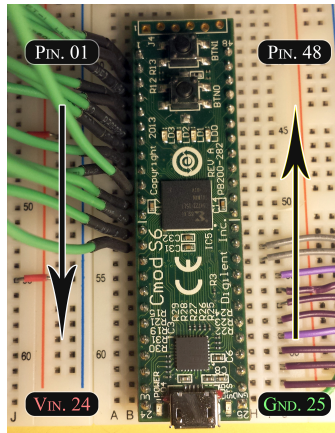

Figure 4: CMod-S6 Board Orientation and Numbering
- 2.2. In order to be able to connect to the board you will need to assign pins to the proper header on your board. Familiarize yourself with the orientation and numbering convention of the board, shown in Figure 4. Consult Table 4 for pin numbering and names.